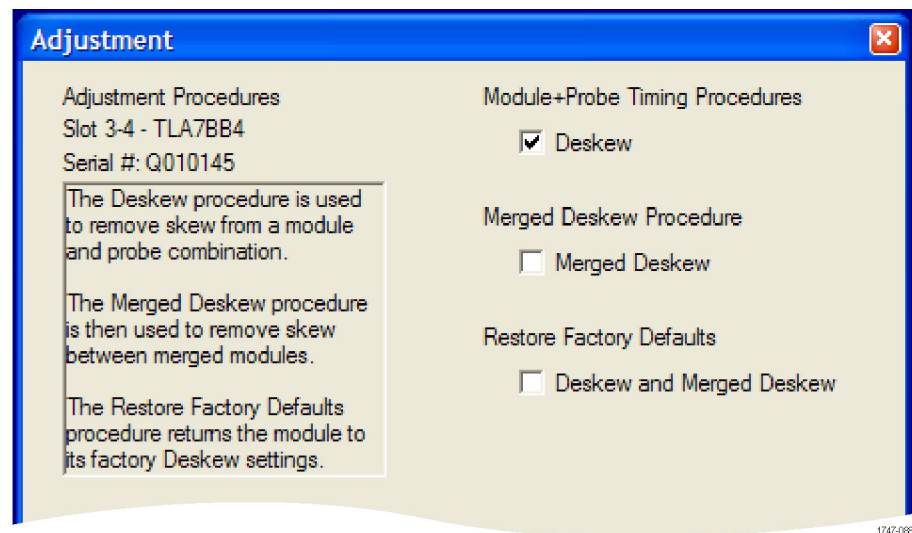

Figure 59: Adjustment procedure dialog box with Deskew selected
5. Click the Adjustment button to start the software. The Adjustment procedure dialog box appears. (See Figure 59.)